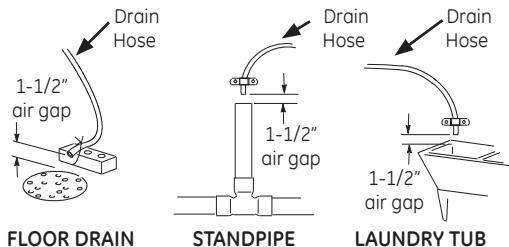

Figure 1
A drain is needed for regeneration water (See Figure 1). A floor drain, close to the water softener, is preferred. A laundry tub, standpipe, etc. are other drain options. Secure valve drain hose in place. Leave an air gap of 1-1/2" between the end of the hose and the drain. This gap is needed to prevent back flow of sewer water into the water softener. Do not put the end of the drain hose into the drain.
- Route the drain hose or copper tubing to the floor drain or other suitable drain point. Secure drain hose. This will prevent "whipping" during regenerations. See "Air Gap Requirements" section (Figure 1).